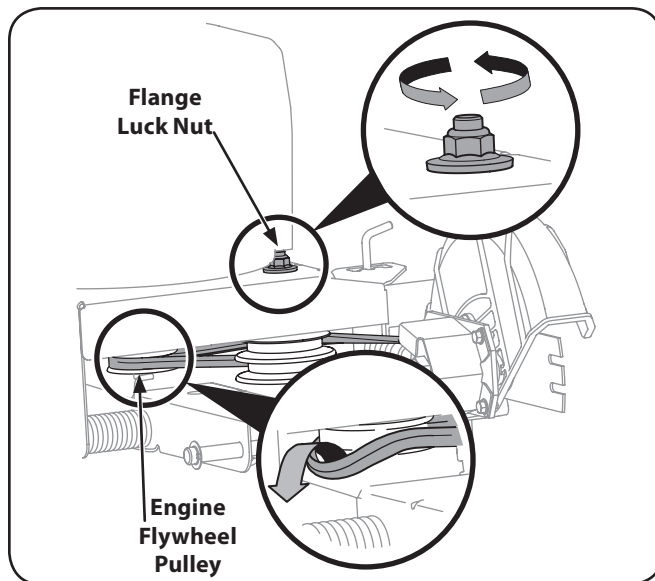

Figure 7-1
NOTE: To aid in reassembly, note the orientation of the drive belt on the two idler pulleys and the engine flywheel pulley prior to performing the following steps. See to Fig. 7-1.
1. Working in front of the edger, loosen the flange lock nut on top of the frame, allowing the idler pulley assembly to pivot slightly out from the frame. See Fig. 7-1.
2. With your other hand, carefully reach under the rear of the edger and remove the belt from around the engine flywheel pulley. See Fig. 7-1.